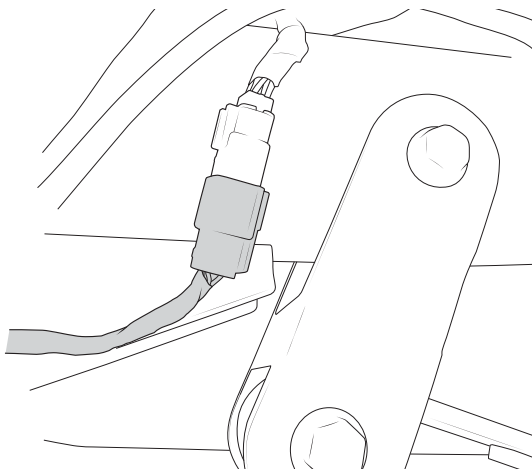

Figure 3
3. Unplug main connector on the inside of the LH frame rail (fig. 3).
- B. Plug main connector on LH side of frame rail (fig. 3).